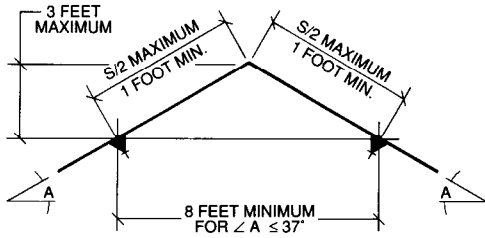

Figure F-1 (Elevation View)
NOTES: 1. Figures F-1 through F-9 only apply when:
- the sprinklers shown in Figures F-1 through F-8 are located in a plane which is perpendicular to the ceiling ridge, and the ceiling angles are within the specified range.
2. Contact the Technical Data Department for questions concerning installations outside the scope of Figures F-1 through F-10.